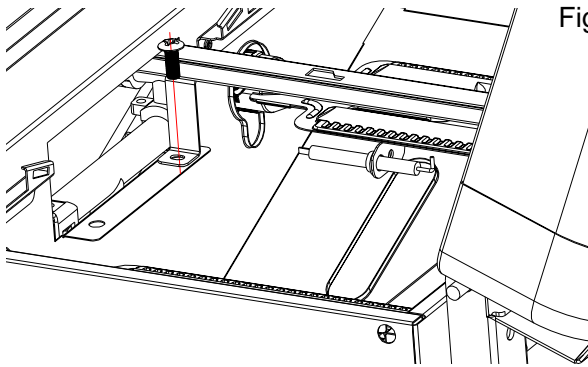

Fig. 6B
Attach the bracket of the Wood Chip Box Left Rail to the left side of front panel using (1) M5x10 bolt as shown in Fig. 6B.